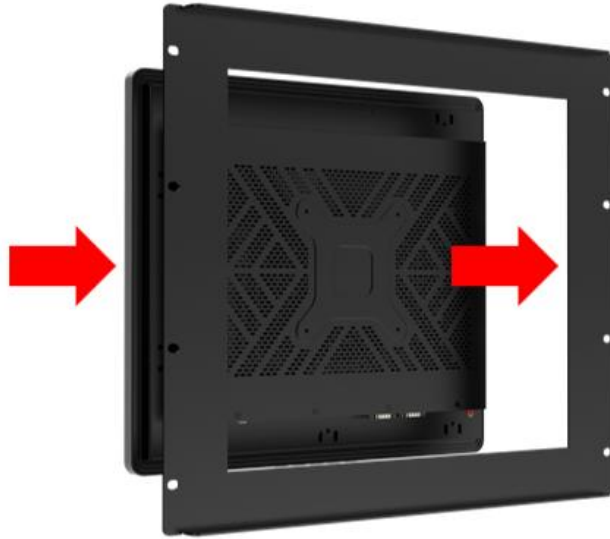

Figure 3-31: Machine mounted to panel
Step 3: Slide the AURA-xxx-MTL Series through the hole until the aluminum frame is flush against the panel (**Figure 3-31**).